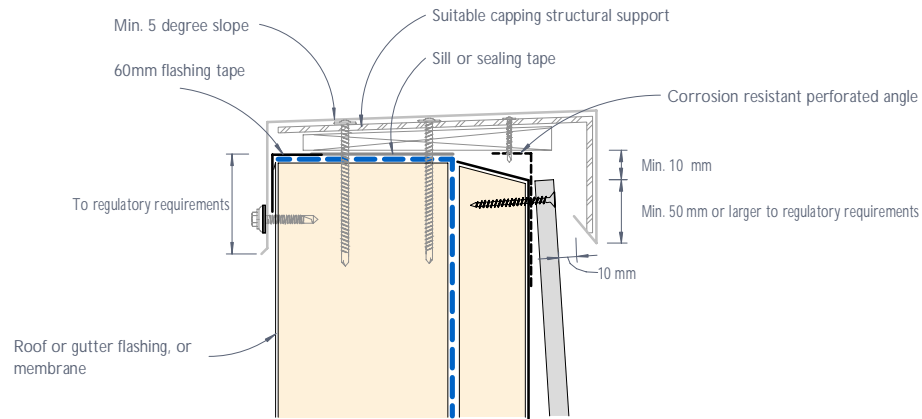

Figure 44: CEDRAL LAP typical capping detail
- 3) Capping shall be designed and engineered accordingly to provide adequate allowance for ventilation as shown in Figures 44 & 45.